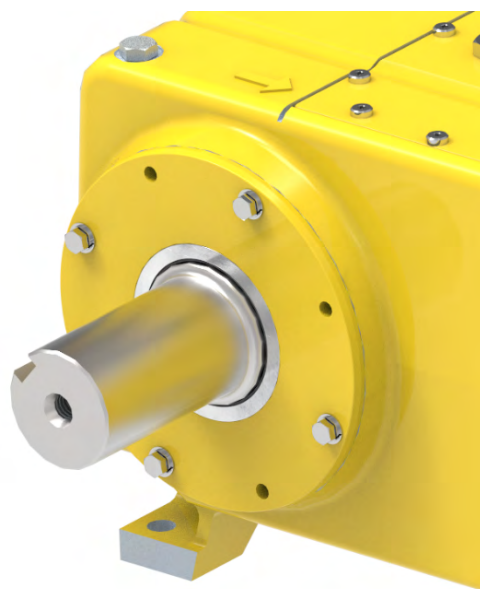

Figure 159: Install Shims and Cap
15. Install the same shims that were removed during disassembly onto the inboard frame cap. If the shims are not known, start with 1 of each color (yellow, white, blue, brown). Install the outboard frame cap using only 4 capscrews, lock washers, and flat washers. Torque to 50 ft/lbs (68 Nm). (Figure 159)